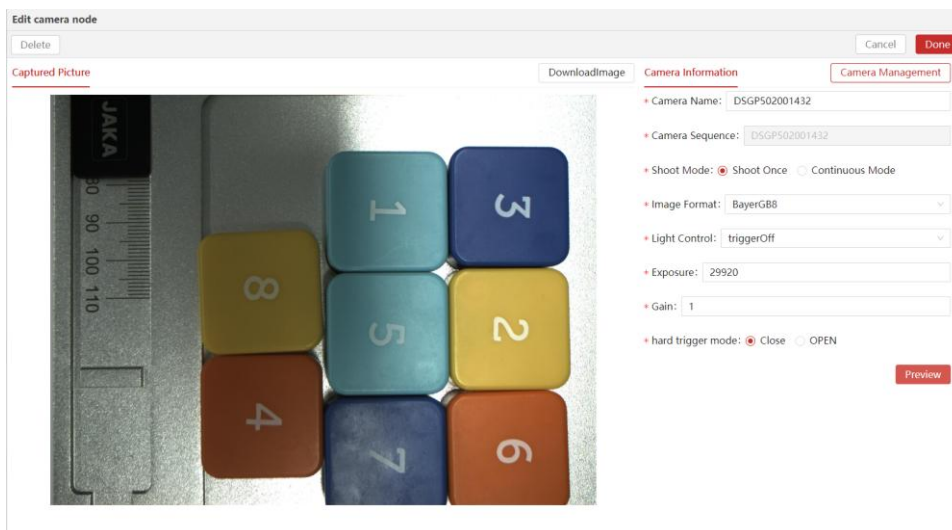

Figure 4.2-2
2) Place all the digital blocks in the center of the field of view, adjust the camera exposure and gain, obtain an image with suitable brightness and click [Finish] to save the settings. As shown in Figure 4.2-2.